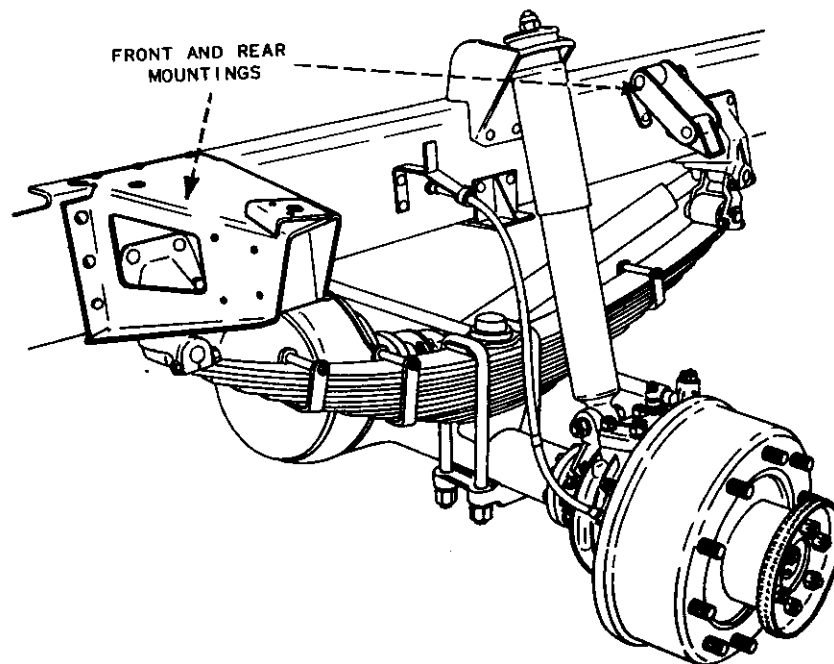

FIG 22 - CAB MOUNTING BRACKETS
*Removal of Cab Rear Mountings (Figs 22